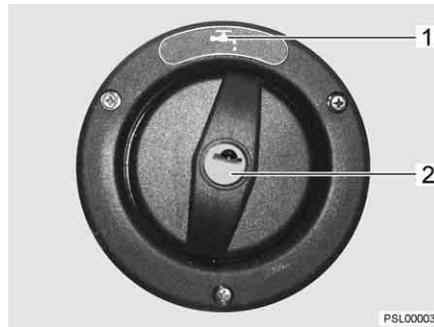

Fig. 38 Cap for the drinking water filler neck
▷ The drinking water filler neck is indicated by the symbol "☞" (Fig. 38,1).
- Insert the key in the locking cylinder (Fig. 38,2) and turn it in an anticlockwise direction.